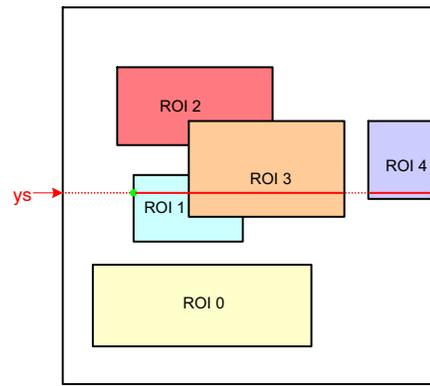

Figure 28. Scanning the Image Array with Five Windows
Figure 28 illustrates a practical example of a configuration with five windows. The current position of the
- The read pointer is not necessarily incremented by one, but depending on the configuration, it can jump in y -direction. In Figure 28, this is the case when reaching the end of ROI0 where the read pointer jumps to the y -start position of ROI1